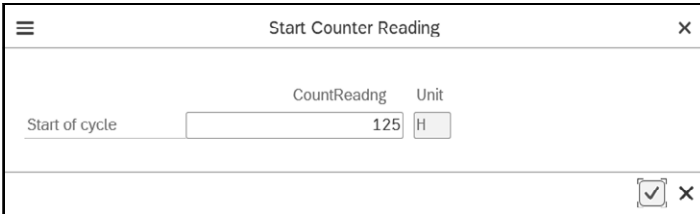

Figure 5.54: Transaction IP10: Start Performance-Based Maintenance Plan with Counter Reading
- Use the **Start in cycle** function in Transaction IP10 when you want to proceed in an existing maintenance cycle. In this case, you specify a completion counter reading in the **CountReading** field for when maintenance was last performed and select the last executed package (see Figure 5.54).